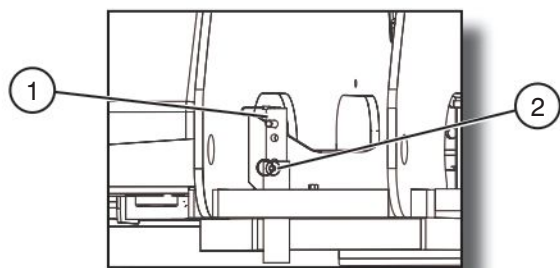

Figure 3-7. Turret Transportation Lock
1. Ensure that turret is positioned so that turret transportation lock (item 1 - Figure 3-7) is aligned into one of four turret locking points.
2. Pull out turret lock retaining pin (item 2 - Figure 3-7). Lower turret lock into locked position and reinsert turret lock retaining pin.